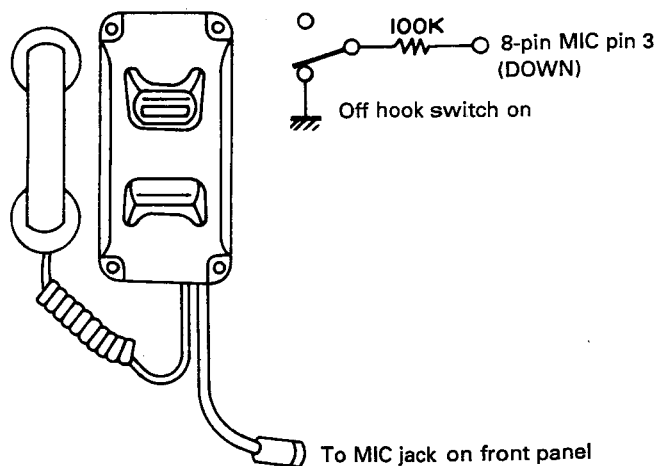

Fig. 24 When removing handset from hanger
4. When the handset is removed from the hanger as shown in Figure 24, the internal or external speaker is cut off (the SP switch is deactivated). The received tone is heard from the handset speaker.